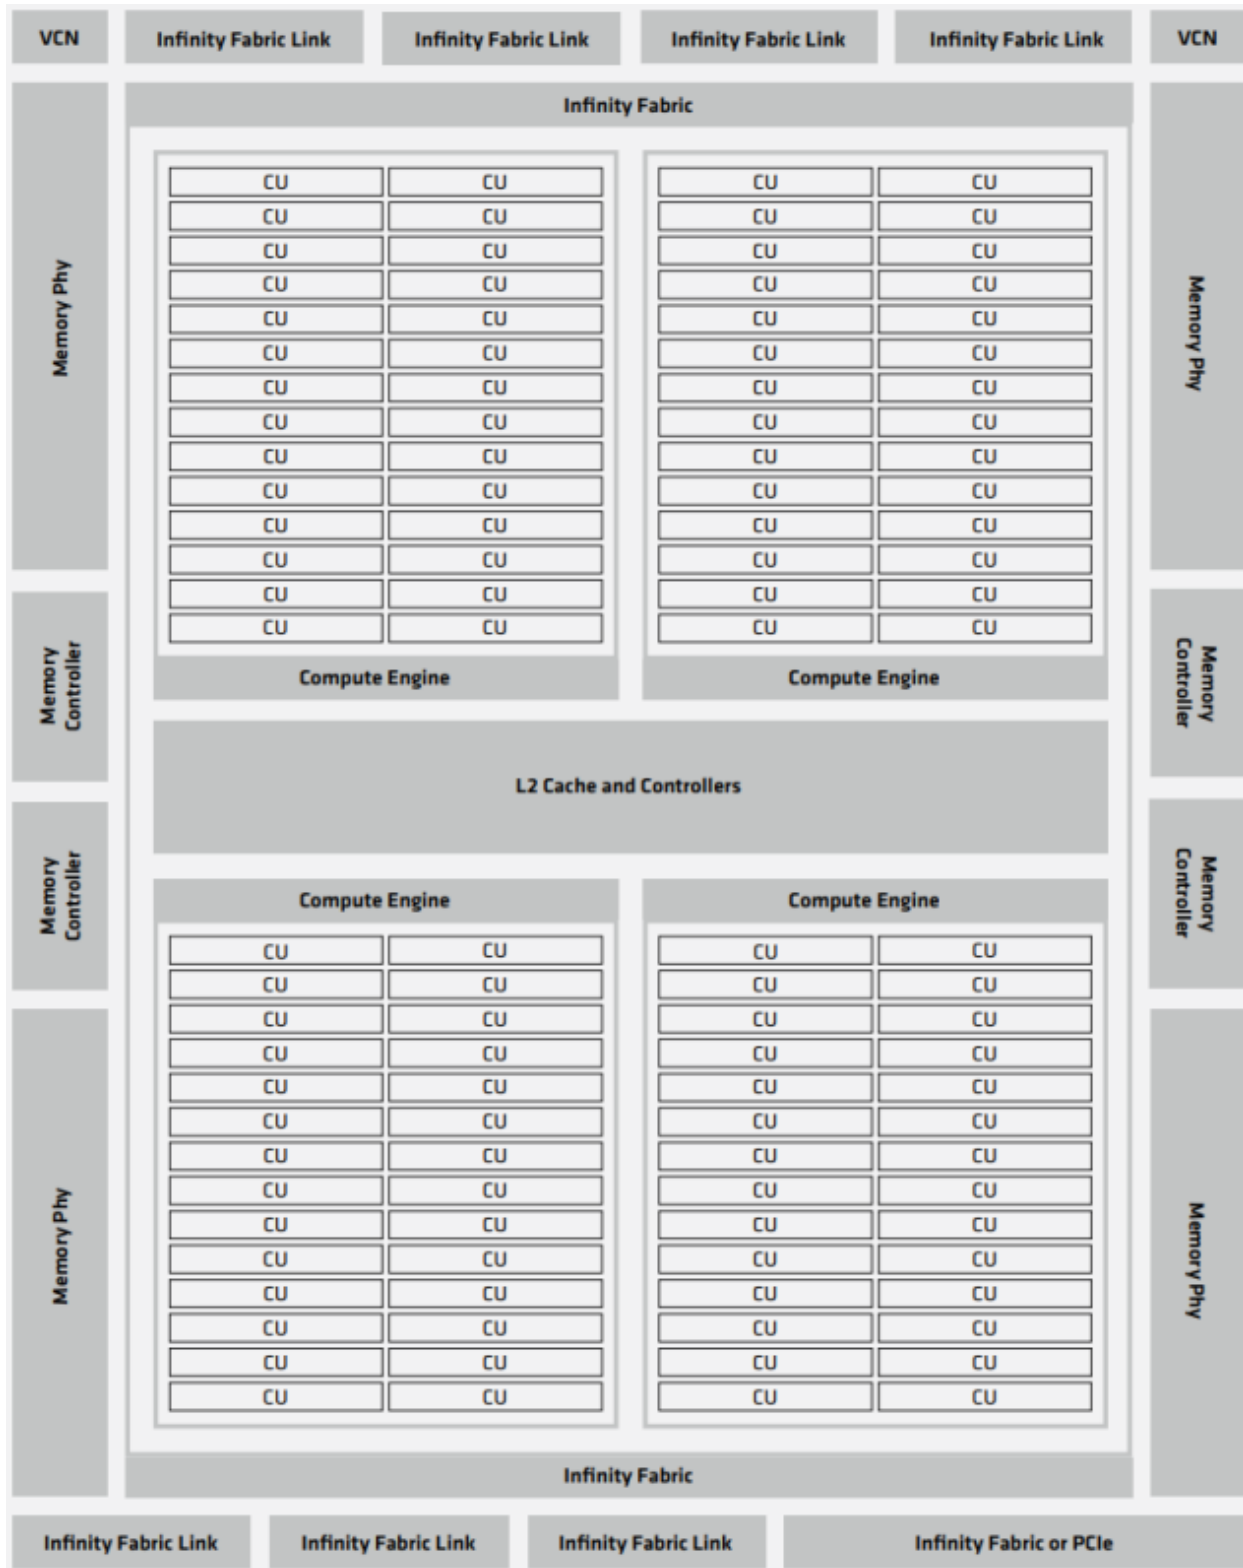

Fig. 26.1: Figure 1: Structure of a single GCD in the AMD Instinct MI250 accelerator.
Fig. 26.1 shows the components of a single Graphics Compute Die (GCD ) of the CDNA 2 architecture. On the top and the bottom are AMD Infinity Fabric™ interfaces and their physical links that are used to connect the GPU die to the other system-level components of the node (see also Section 2.2). Both interfaces can drive four AMD Infinity Fabric links. One of the AMD Infinity Fabric links of the controller at the bottom can be configured as a PCIe link. Each of the AMD Infinity Fabric links between GPUs can run at up to 25 GT/sec, which correlates to a peak transfer bandwidth of 50 GB/sec for a 16-wide link ( two bytes per transaction). Section 2.2 has more details on the number of AMD Infinity Fabric links and the resulting transfer rates between the system-level components.
The execution units of the GPU are depicted in Fig. 26.1 as Compute Units (CU). The MI250 GCD has 104 active CUs. Each compute unit is further subdivided into four SIMD units that process SIMD instructions of 16 data elements per instruction (for the FP64 data type). This enables the CU to process 64 work items (a so-called “wavefront”) at a peak clock frequency of 1.7 GHz. Therefore, the theoretical maximum FP64 peak performance per GCD is 45.3 TFLOPS for vector instructions. The MI250 compute units also provide specialized execution units (also called matrix cores), which are geared toward executing matrix operations like matrix-matrix multiplications. For FP64, the peak performance of these units amounts to 90.5 TFLOPS.